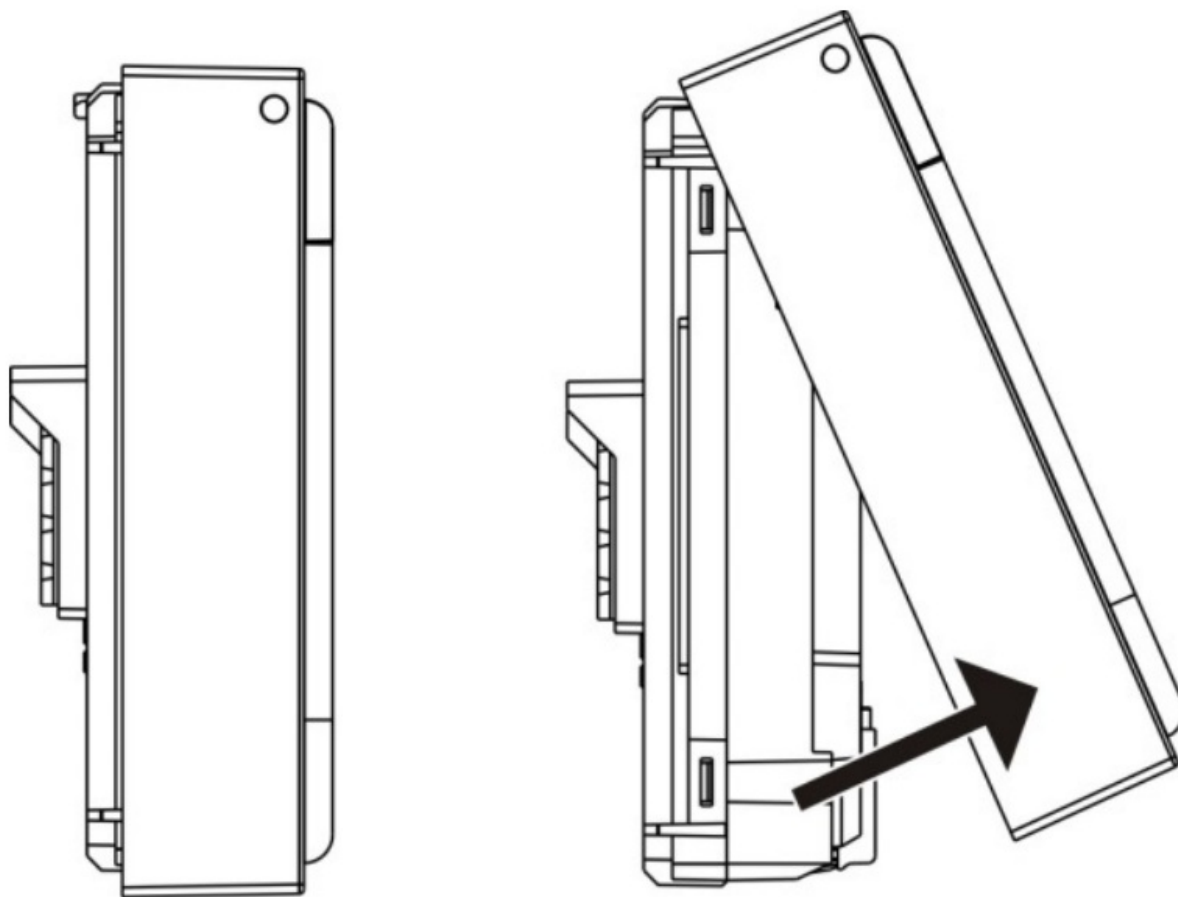

Figure 5: Removing the resettable element
To remove the resettable element, push the element up, and then pull it out (see Figure 5).
2. Push the element up, and then pull it out (see Figure 5).